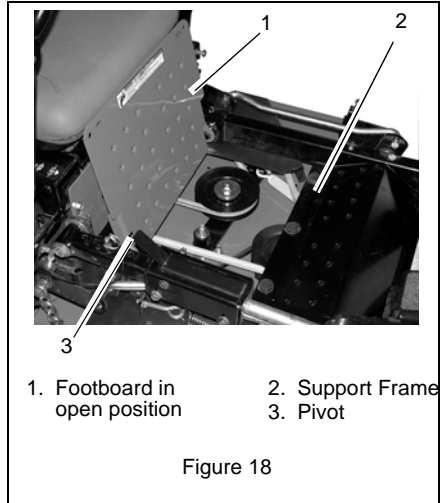

Figure 18
5. Place foot board in open position (Figure 18).